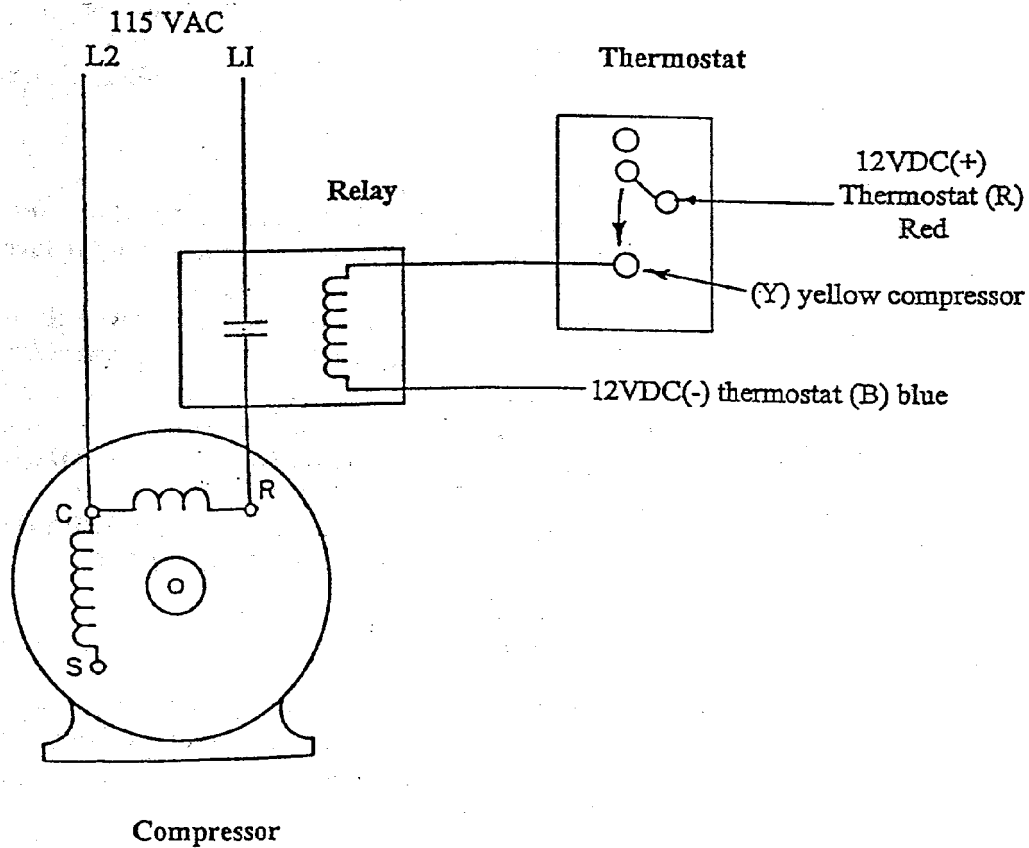

Figure 1
As shown in Figure 1. on the next page, the 115VAC power to the compressor is interrupted by a set of normally open contacts on the relay. In order for these contacts to close 12VDC must be applied by the wall thermostat to the relay coil. When the thermostat switch is placed in the cool position 12VDC(+) travels from the thermostat red wire to the thermostat yellow (Y) wire and then to the relay coil. When the coil is activated an electromagnet inside the relay will pull the contacts closed. The 115VAC will now operate the compressor until the thermostat opens or the system switch is turned to the off position.
Figure 1. shows a very simplified control circuit for compressor operation only. The entire control circuit for the A/C / Heating system would include the rest of the thermostat functions and possibly 2 or 3 more relays. In addition to the compressor relay you would need a separate relay for **Low Fan**, one for **High Fan**, and possibly one for **Heat**, if a heat pump or electric heating element is used. Please refer to the previous lesson or use the chart below for proper wiring from the wall thermostat to each individual relay.